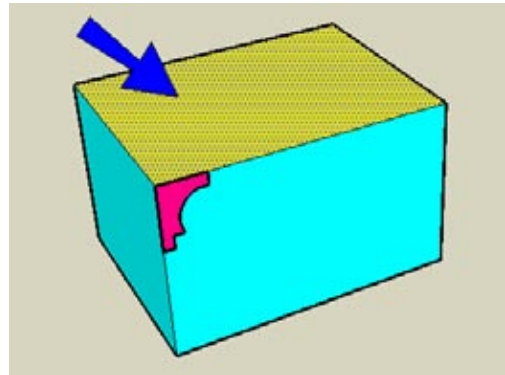

Figure 2-25
2. To define the Follow Me path, select the top face of the box, as shown in Figure 2-25.